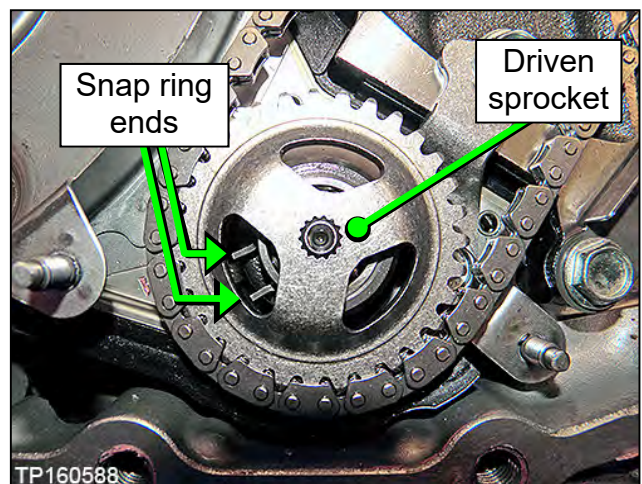

Figure 140
- Expand the snap ring with a suitable tool, and then push down on the driven sprocket until it bottoms out (Figure 140).